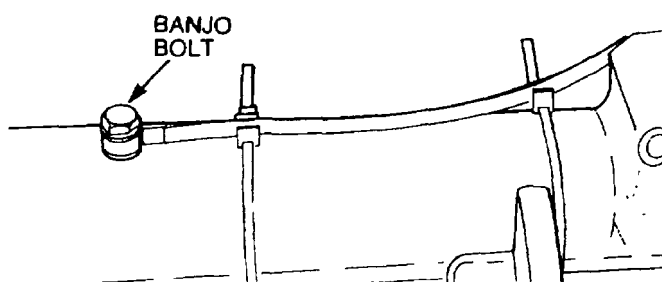

Figure 108 Front Axle Breather Hose Location
- b. Remove the banjo bolt and sealing washers securing the breather hose to the front axle casing (Figure 108). Discard the sealing washers.